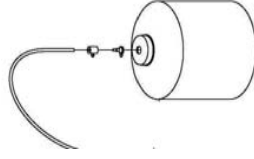

Fig. 7
- On the back of the Dishwasher, locate clear tube marked as “Detergent” and place inside detergent container. (Fig. 7)
- The unmarked clear tube is to be placed inside your rinse container. (Fig. 7).